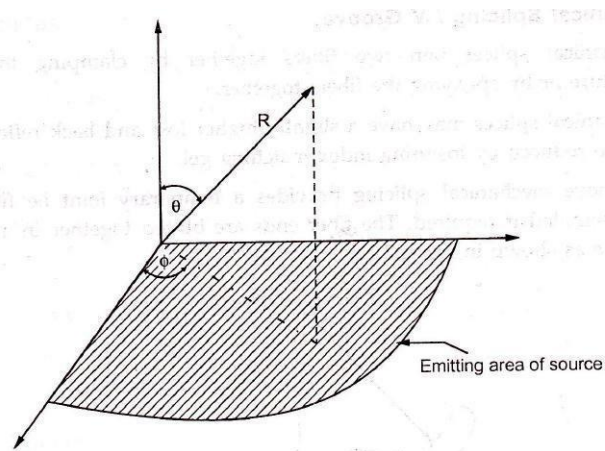

Fig. 4.3.1 Dimensional spherical co-ordinate system
11. Fig. 4.3.1 shows three dimensional spherical co-ordinate system for characterizing the emission pattern from an optical source. Where the polar axis is normal to the emitting surface and radiance is a function of θ and ϕ .